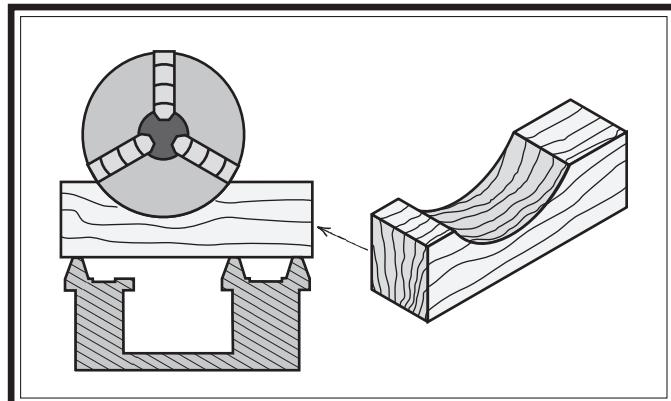

Figure 39 Wooden chuck support cradle.
2. Lay a chuck cradle (see Figure 39) or plywood under the chuck or faceplate and over the bedway to protect the precision ground surfaces from damage and reduce injury if fingers get pinched.
2. Lay a chuck cradle (see **Figure 39**) or plywood under the chuck or faceplate and over the bedway to protect the precision ground surfaces from damage and reduce injury if fingers get pinched.